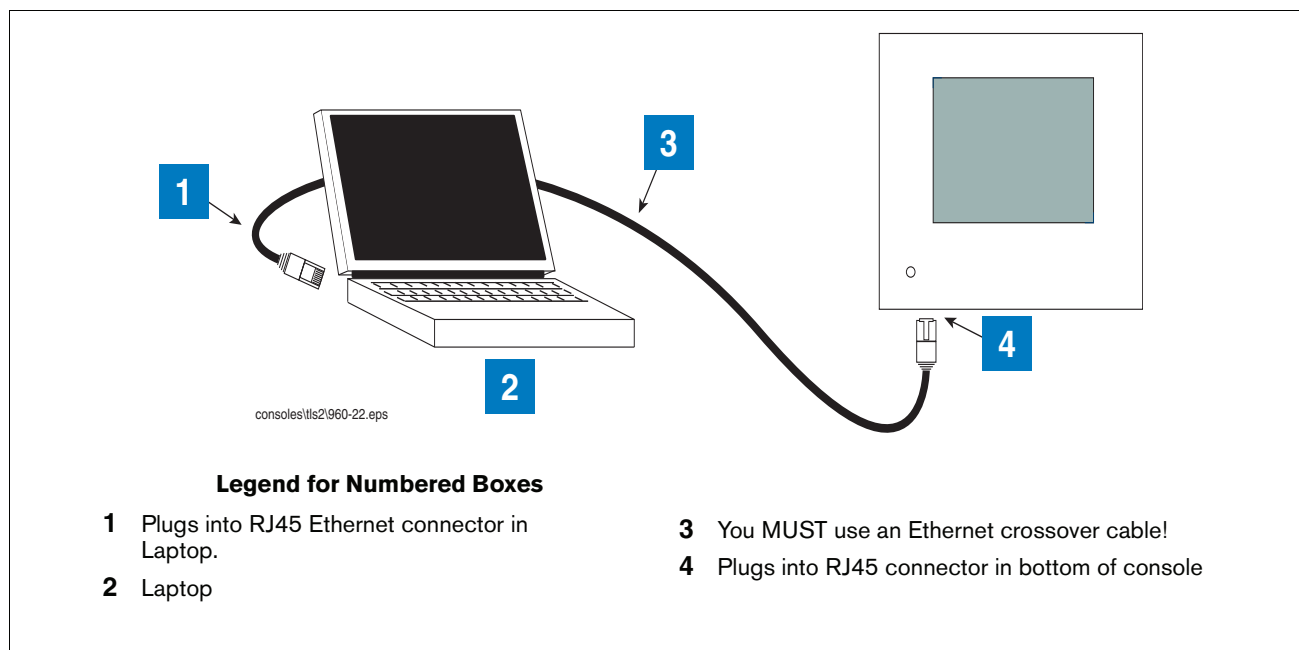

Figure 1. Direct Connection
1. Connect your laptop to the TLS2P as shown in Figure 1. Go to your laptop's Control Panel folder and doubleclick the 'Network and Dial-up Connections' icon.